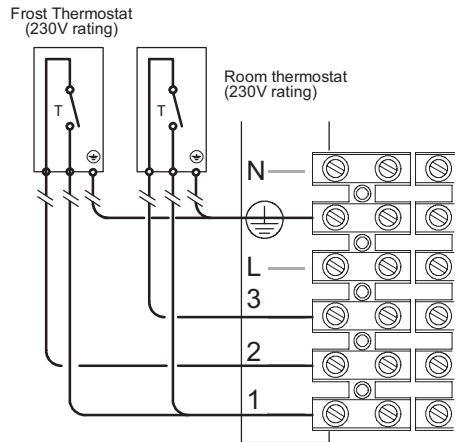
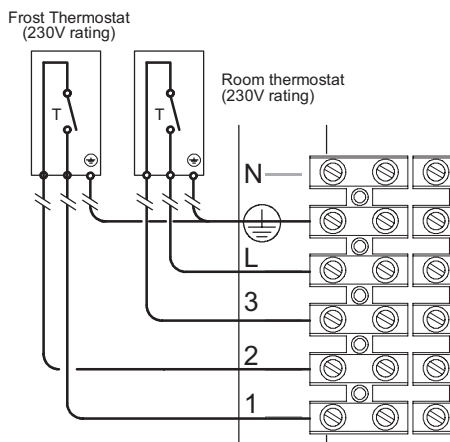

Fig. 6.28
Fig. 6.30
- Connect the frost thermostat between terminals 1 and 2 as shown in Fig. 6.28, Fig. 6.28 or Fig. 6.30.